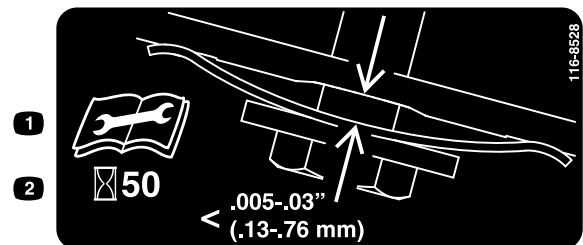

Figure 33
3. Hold a feeler gauge set between 0.13 and 0.76 mm (0.005 and 0.03 inches) against the wall and slide it down behind the belt tension spring; refer to Figure 33.